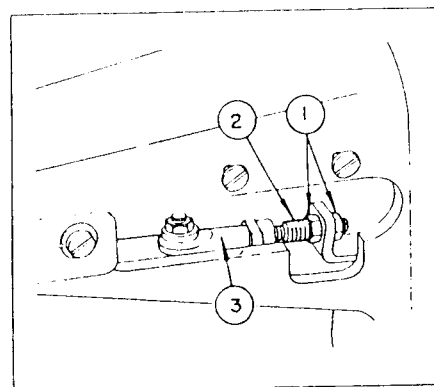

Fig. 5
5) Adjusting the position of moving knife (Fig. 5, 6)